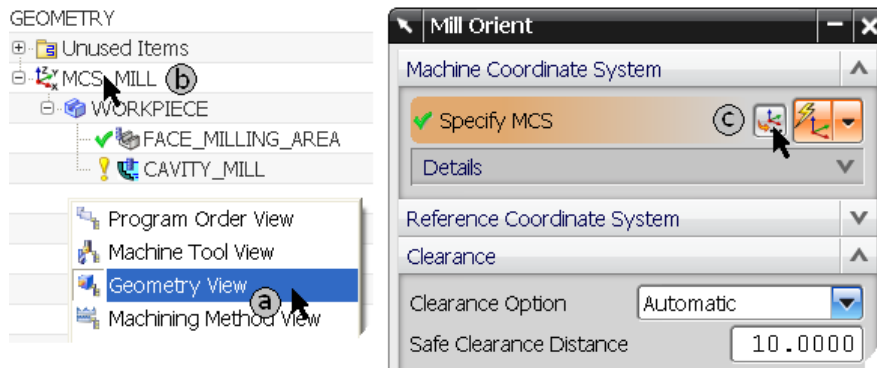

Figure 8.3 Consecutive steps in changing the MCS
8. In the *Navigator Operation* go to *Geometry View* — figure 8.3 (a).
9. Double-click on the **MCS_MILL** icon — figure 8.3 (b).
10. The *Mill Orient* dialog box appears. Click on the *CSYS Dialog* icon — figure 8.3 (c).